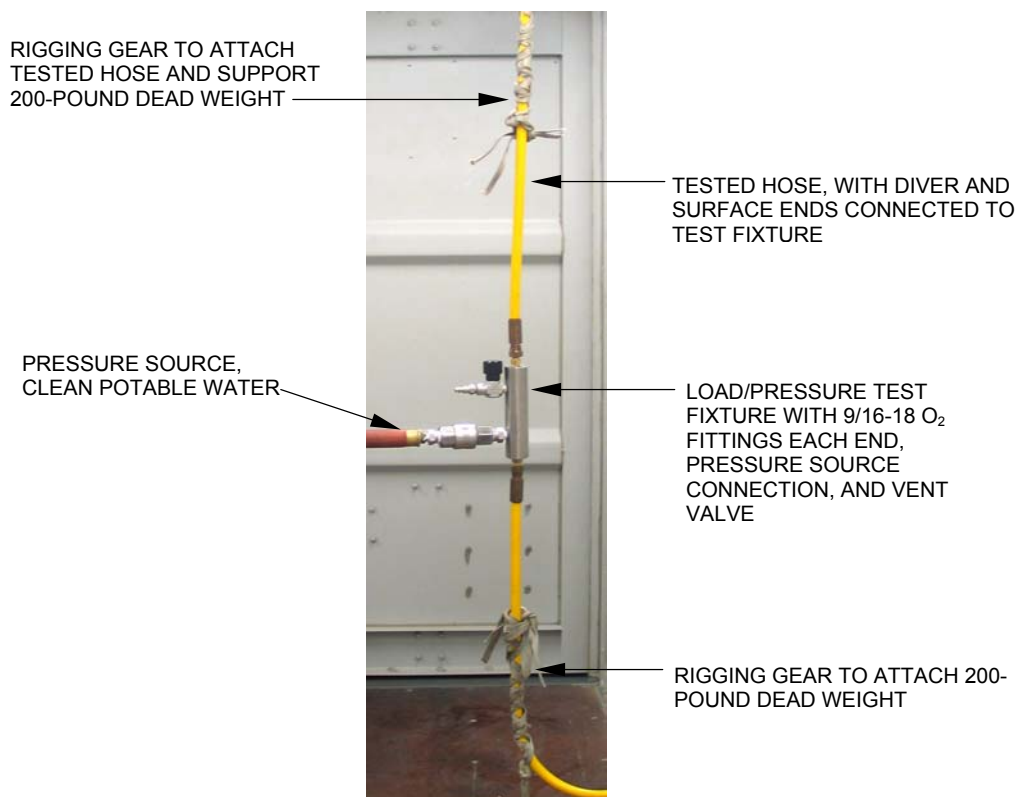

Figure 3-3. Typical Pressure and Load Test Arrangement
- c. Using appropriate fittings, connect the hose to the pressure source (see Figure 3-3).